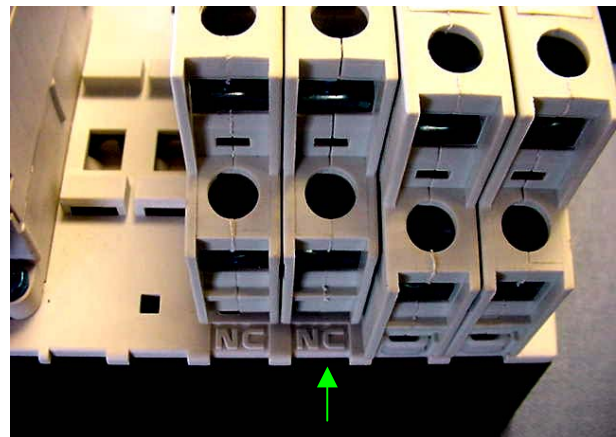

Figure 2
3. Check for the lettering on the base. “NO” should be visible if the power pole is assembled as normally open, and “NC” should be visible if it is assembled as normally closed (see Figure 2).